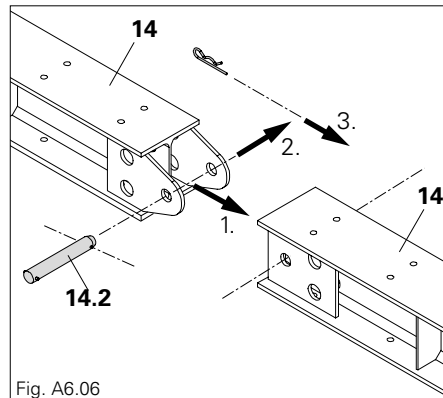

Fig. A6.06
2. Place the base beam (14) on the place of use (foundation). The beam must rest fully on a level and load-bearing surface.
3. Depending on the length, connect and secure base beam with bolts and cotter pins (14.2). (Fig. A6.06)